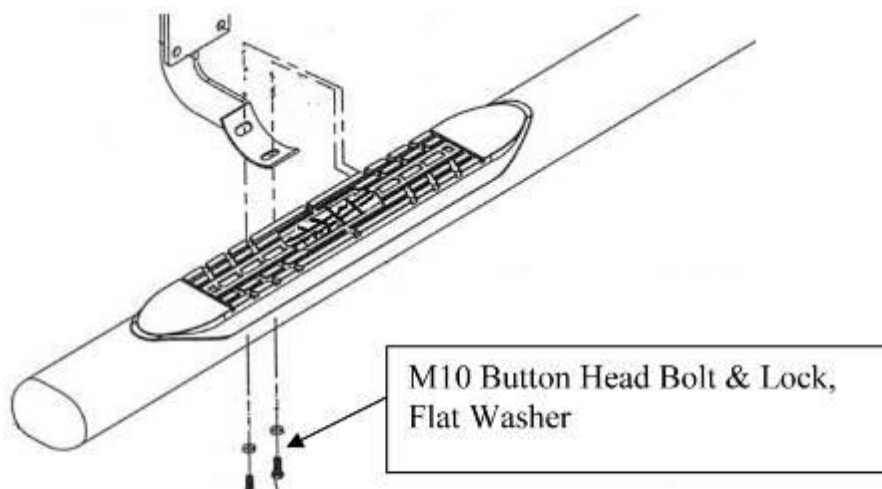

Figure 2. Installation View of Bracket & Bar
- Assemble with M10 button head bolts & M10 lock washers. 2 bolts per bracket, 6 bolts per bar (see Fig2). Hand tightens.